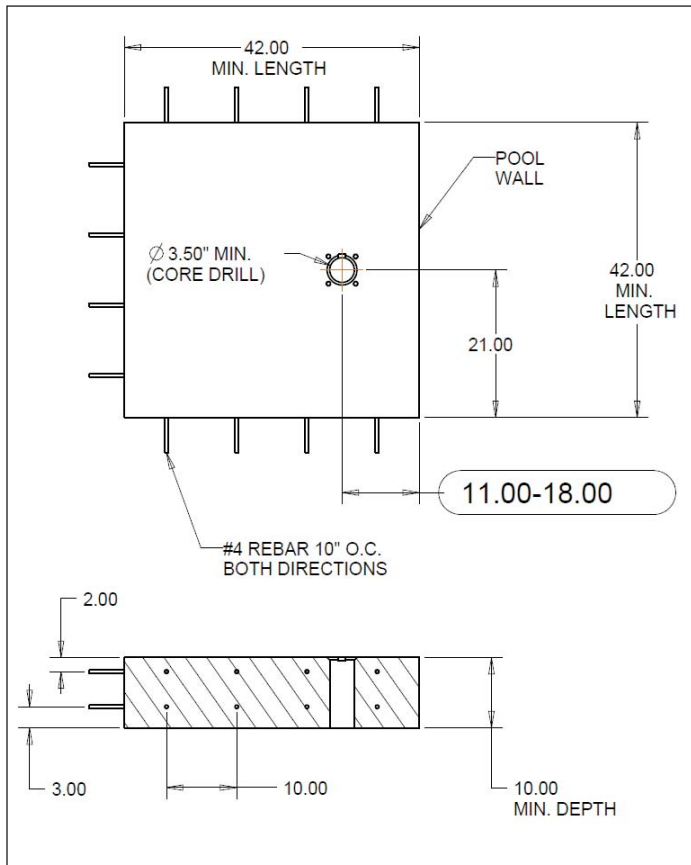

Fig 2: Concrete Slab and Core-Drill Specs.
- 3 Add the new footing with a minimum thickness of 10", reinforced with two mats of #4 rebar spaced 10" on center. One mat is to lay 3" clear of the bottom of the footing and the other 2" clear of the top. Locate the location in which the lift will be placed and set the 3.50" diameter Pipe/Tube/Sleeve, Fig. 2. The new slab will need to be drilled and epoxied into the existing deck with either Simpson Set-XP or Hilti RE-500-SD. BE SURE THAT THE PIPE/TUBE/SLEEVE HAS A GREATER DIAMETER THAN 3.50", OTHERWISE, THE MOUNTING BASE WILL NOT FIT.